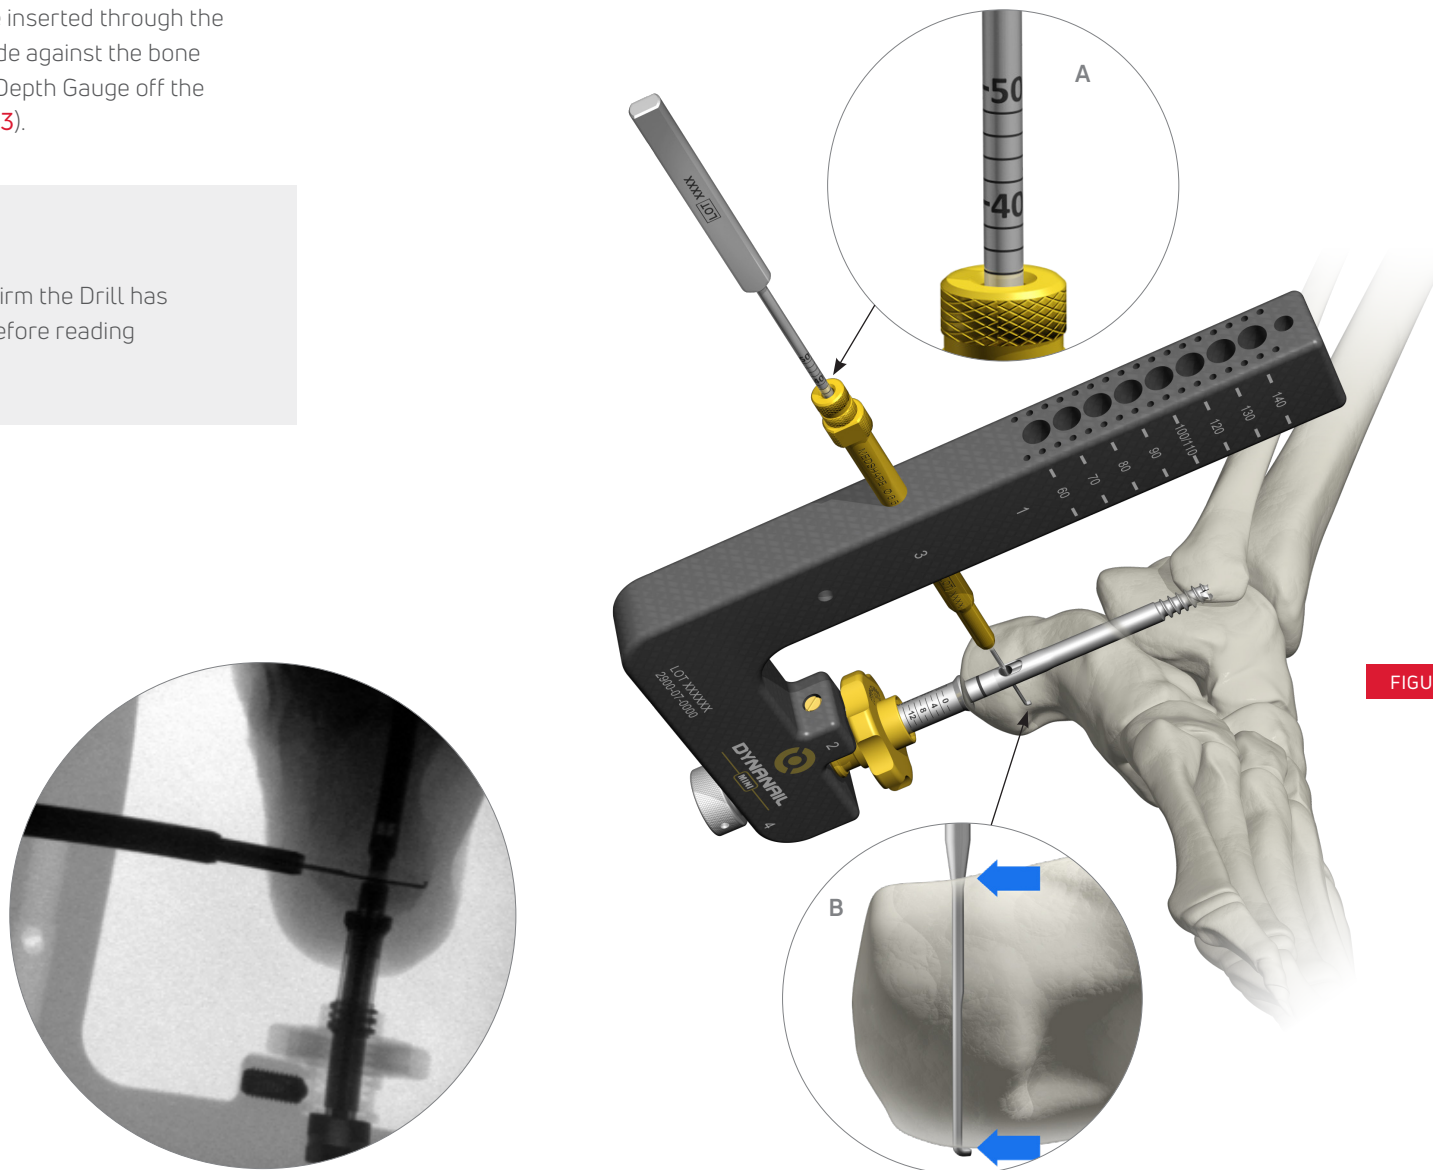

FIGURE 13
2. The Screw Depth Gauge may be inserted through the Drill Guide (A). With the Drill Guide against the bone (B), read the laser marks on the Depth Gauge off the back of the Drill Guide (FIGURE 13).